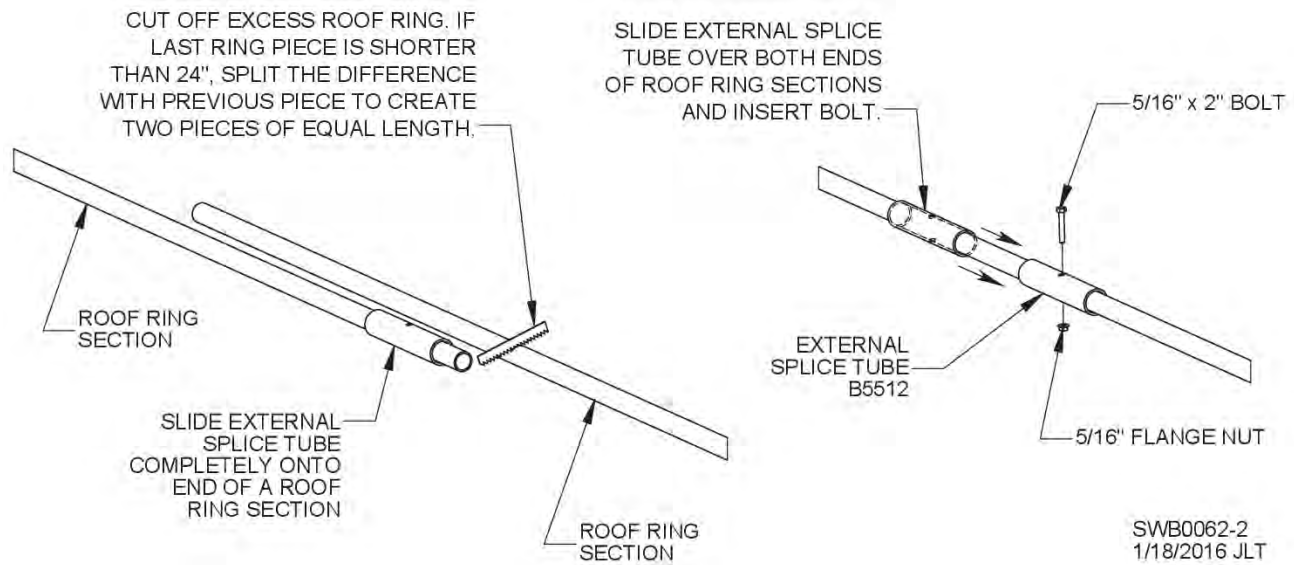

**Fig. 14**
Pre-assemble expander assemblies (1 x 10" threaded rod, 1" nuts and 1" washers) before installing ring. Run all four (4) 1" nuts to center of each threaded expansion rod. Position washers outside of nuts. Nuts and washers will later be run outward after all sections of ring have been assembled. See Fig. 14.
Place first expander assembly near roof ladder. Center first ring section on roof ladder sheet. Evenly space remaining expanders around roof ring as ring sections are placed into bent roof ring brackets. Install internal tube splices (B5511) at all other locations except last one, where an external splice tube will be used. Fig. 15 shows 8" internal tube splice using a 5/16 x 1-1/4" bin bolt as a stopper. Fig. 16 shows 8" external splice tube (B5512) using 5/16 x 2" bolt. Place 5/16" U-bolts on all roof ring mounting brackets. See Figs. 14 and 15. Do not tighten U-bolt flange nuts until later after roof has been crowned.